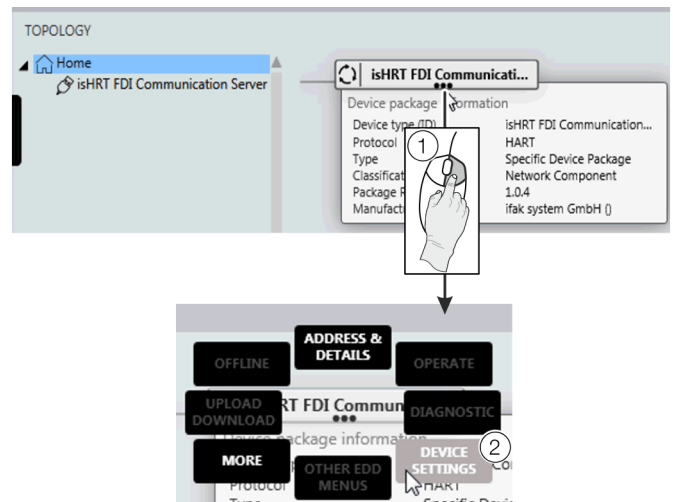

Figure 51: Select FIM – 'Device Settings'
6. Right-click ① as shown in Figure 51.
7. Select 'DEVICE SETTINGS' ② as shown in Figure 51.